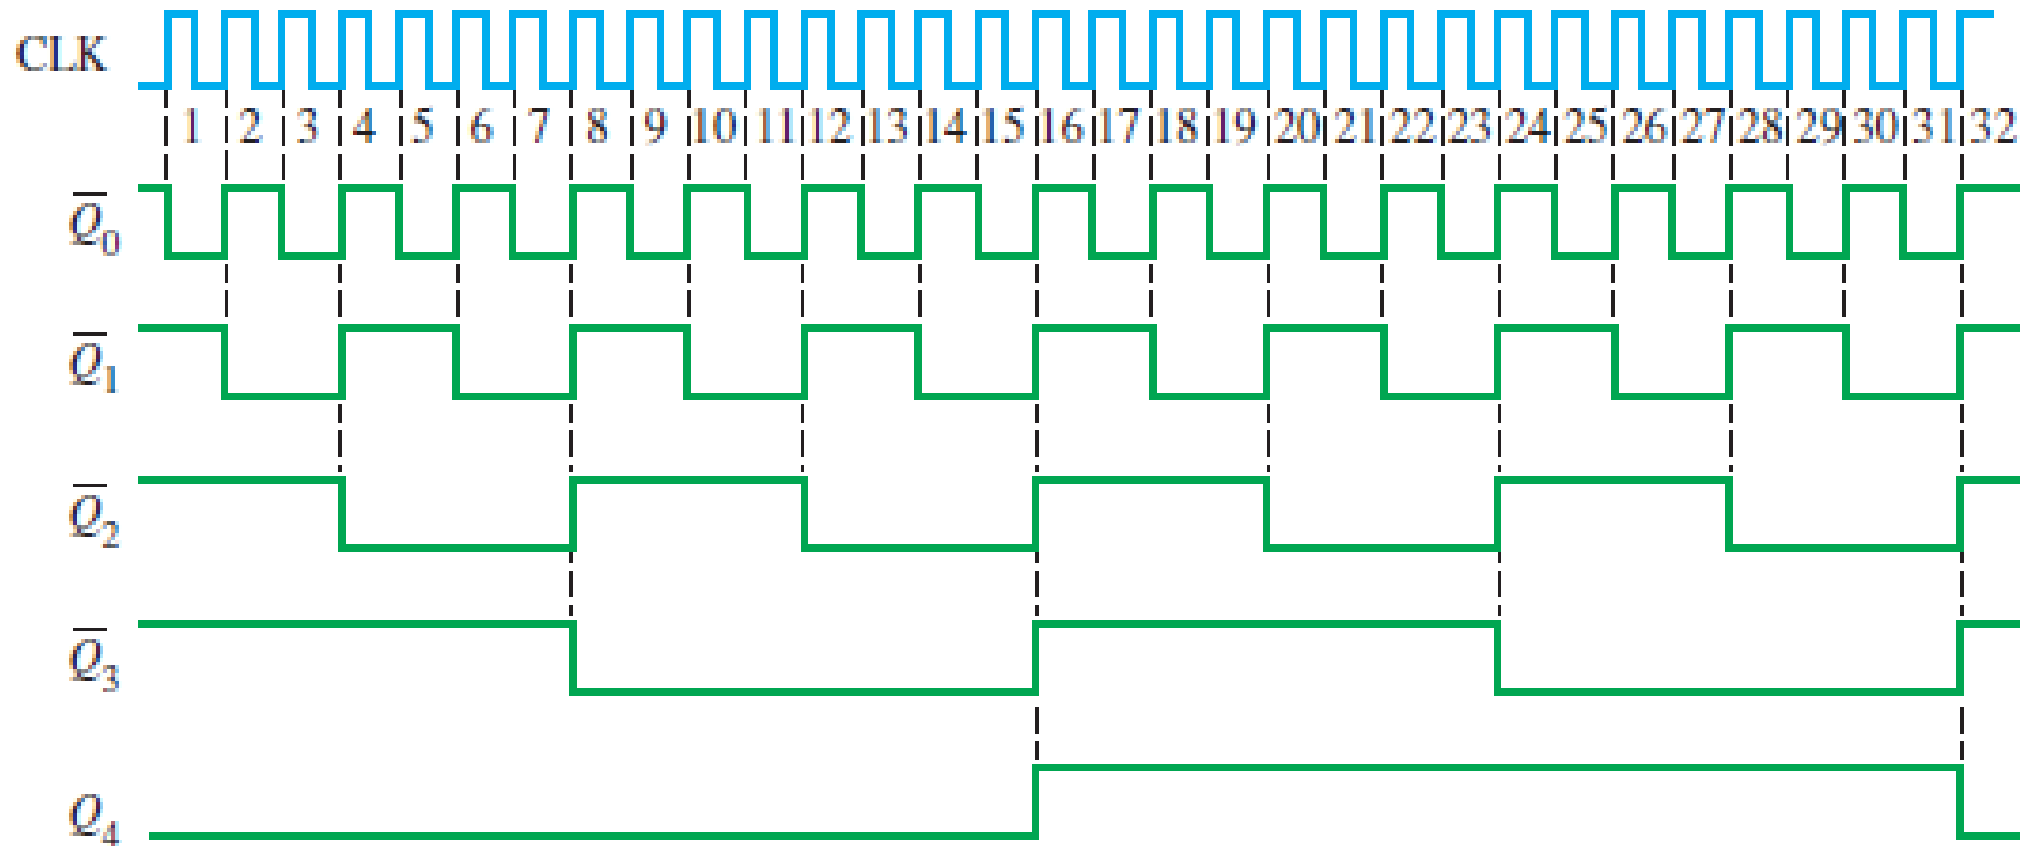

FIGURE 2 Timing diagram for the cascaded counter configuration of Figure 1.
- The timing diagram is shown in Figure 2. Notice that the final output of the modulus-8 counter, Q_4 , occurs once for every 32 input clock pulses.